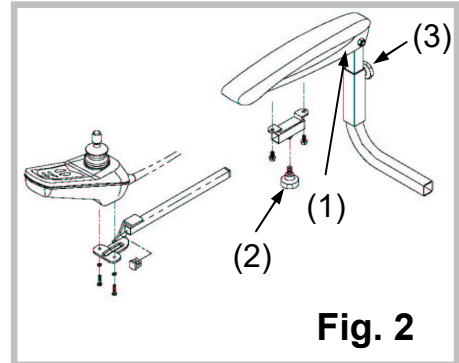

Fig. 2
ARM ADJUSTMENTS (Fig.2)
Loosen the hand knob [Fig.2 (3)] and remove the entire armrest assembly with the joystick attached. Place the armrest assembly on the desired side. Reset in position by re-tightening the hand knobs to complete joystick conversion.